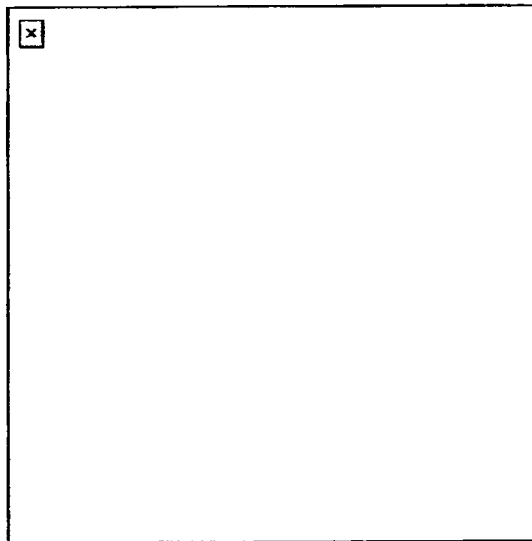

Figure 191-376-5125-1
- (1) Use a circle and/or zone to search indoors or small outdoor areas. Refer to Figure 191-376-5125-1.